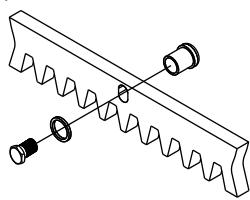

Fig. 8
6.2. Fix to each gear rack element the support pawls using the appropriate lock screws, taking care to place them in the upper part of the hole (Fig. 8);